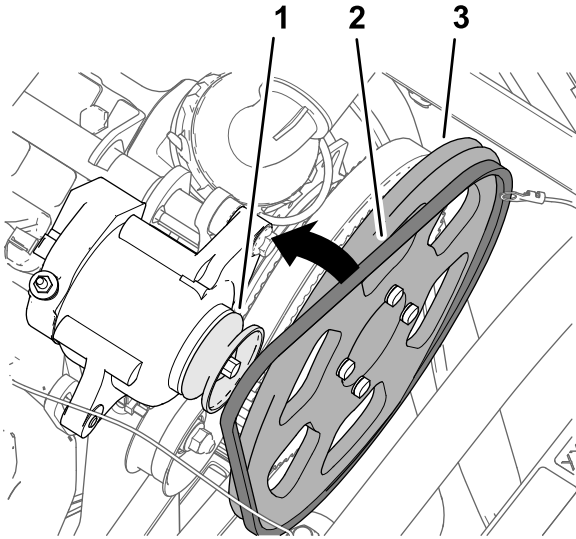

Figure 185
- Assemble the V-belt over the drive pulley 279 mm (11 inch) and the pulley of the alternator (Figure 185).